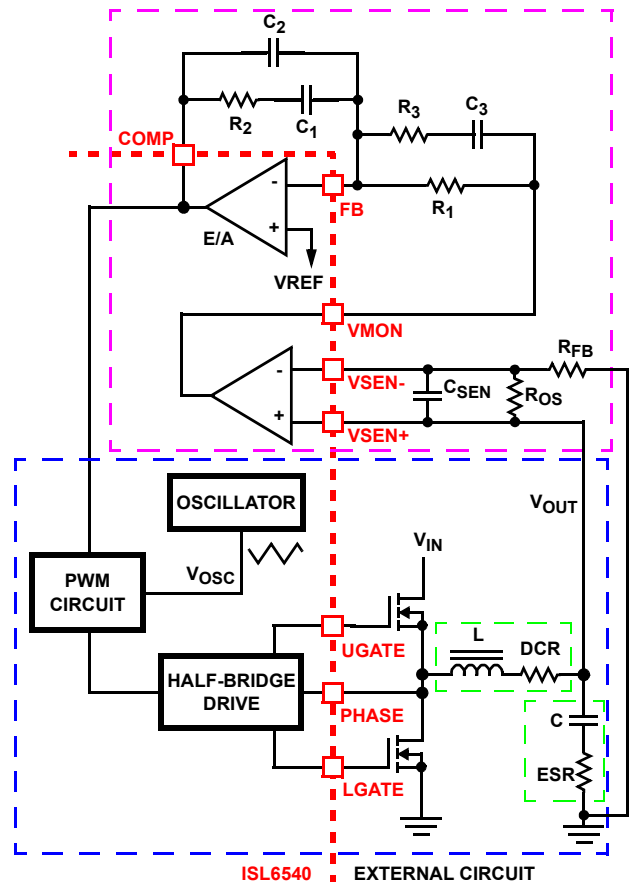

FIGURE 10. VOLTAGE-MODE BUCK CONVERTER COMPENSATION DESIGN
Figure 10 highlights the voltage-mode control loop for a synchronous-rectified buck converter, when using an internal differential remote sense amplifier. The output voltage ( $V_{OUT}$ ) is regulated to the reference voltage,  $V_{REF}$ , level. The error amplifier output (COMP pin voltage) is compared with the oscillator (OSC) triangle wave to provide a pulse-width modulated wave with an amplitude of  $V_{IN}$  at the PHASE node. The PWM wave is smoothed by the output filter (L and C). The output filter capacitor bank's equivalent series resistance is represented by the series resistor ESR.
1. Select a value for  $R_1$  (1k $\Omega$  to 10k $\Omega$ , typically). Calculate value for  $R_2$  for desired converter bandwidth ( $F_0$ ). If setting the output voltage to be equal to the reference set voltage as shown in Figure 22, the design procedure can be followed as presented. However, when setting the output voltage via a resistor divider placed at the input of the differential amplifier (as shown in Figure 10), in order to compensate for the attenuation introduced by the resistor divider, the below obtained  $R_2$  value needs be multiplied by a factor of  $(R_{OS}+R_{FB})/R_{OS}$ . The remainder of the calculations remain unchanged, as long as the compensated  $R_2$  value is used.
A small capacitor,  $C_{SEN}$  in Figure 10, can be added to filter out noise, typically  $C_{SEN}$  is chosen so the corresponding time constant does not reduce the overall phase margin of the design, typically this is 2x to 10x switching frequency of the regulator. As the ISL6540 supports 100% duty cycle,  $d_{MAX}$  equals 1. The ISL6540 also uses feedforward compensation, as such  $V_{OSC}$  is equal to 0.16 multiplied by the voltage at the VFF pin. When tying VFF to  $V_{IN}$  the above equation simplifies to: